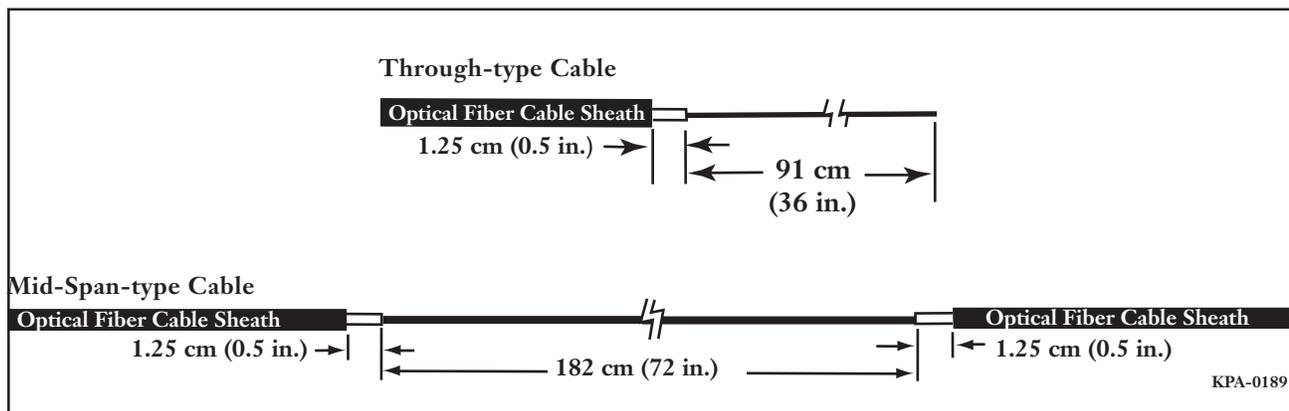

Figure 3 — Cable Sheath Strip Lengths
**Step 1** Remove the length of cable sheath as indicated in Figure 3.